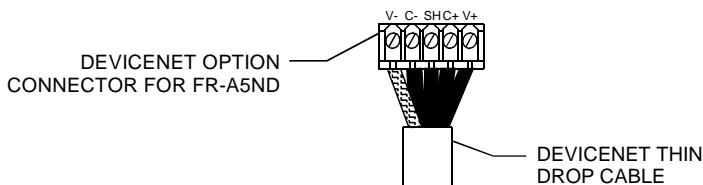

Figure 2-4 : Connector Pin Out Diagram
The DeviceNet option connector pin out connections are shown in figure 2-4.
- (1) Strip the insulation and shielding back about 40mm on the free wire end of the drop cable to expose the four colored signal wires and the silver shield wire.
- (2) Strip the insulation back about 6mm on the signal wires.
- (3) Tin the end of the shield wire to prevent fraying.
- (4) Attach the connector to the DeviceNet cable as follows:
- (a) Using a flathead screwdriver (3.75 mm maximum width), insert the screwdriver into the upper holes of the connector plug, Figure 2-4, turn the screw counter clockwise to open the clamps in the lower holes to allow wires to be inserted.
- (b) Install the signal wires into the Phoenix Contact connector plug as shown in Figure 2-4. Be sure to match the wire colors to the correct pin as shown in Table 2-1.
- (c) After all wires are properly inserted, turn the holding screws, Figure 2-4 clockwise to securely clamp the wires. When properly tightened, wires should not be able to be pulled out.